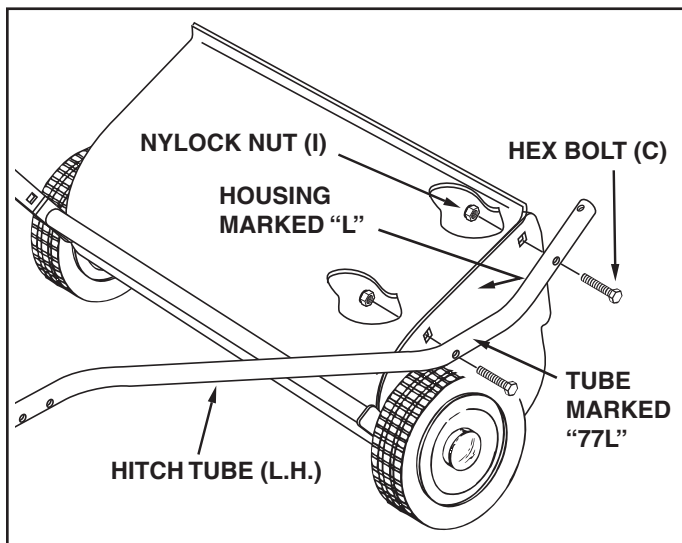

FIGURE 4
- The hitch tubes are stamped with a "77L" for the left tube and a "76R" for the right tube. The sweeper housing is marked with an "L" on the left with side and an "R" on the right side. See figures 4 and 5.
- Hold the left hitch tube against the left side of the sweeper so that the "77L" on the tube faces **away** from the sweeper. Attach the hitch tube using two hex bolts (C) and nylock nuts (I). **Do not tighten yet.** See figure 4.